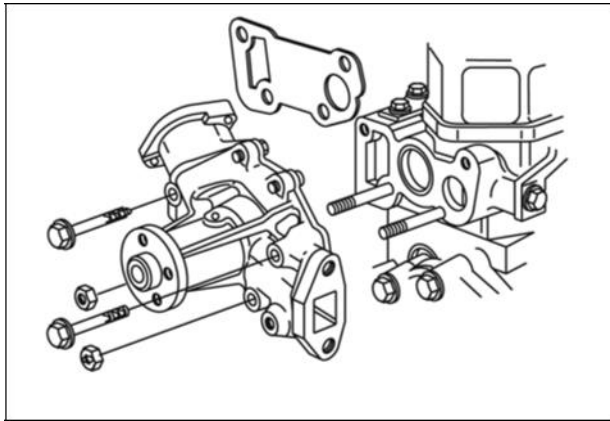

Figure 36
12. Install water pump with new gasket (Figure 36). Torque screws and nuts to values listed in Section 14 - Engine Specifications.